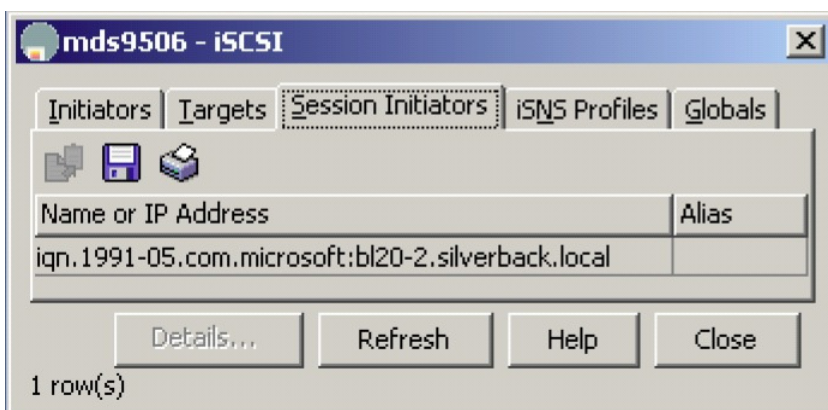

Figure 39 Verifying C-Series iSCSI sessions
8. On the iSCSI-enabled C-Series Fibre Channel switch in the **IP > iSCSI** window, click the **Session Initiators** tab to verify C-Series iSCSI sessions (Figure 39).